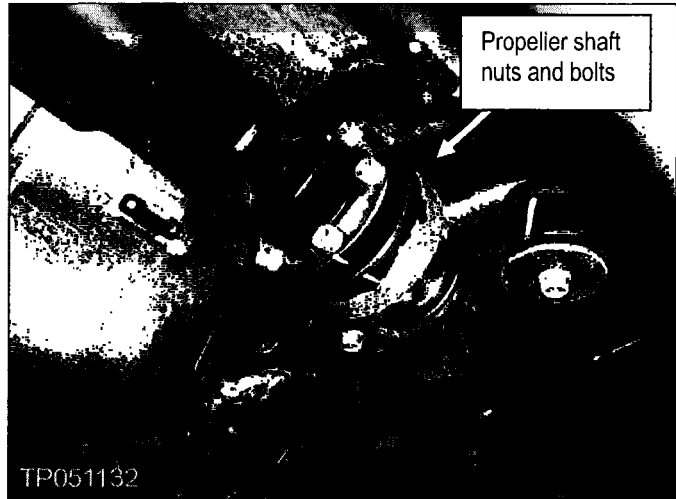

Figure 55
21. Remove and discard the propeller shaft nuts and bolts (see Figure 55).